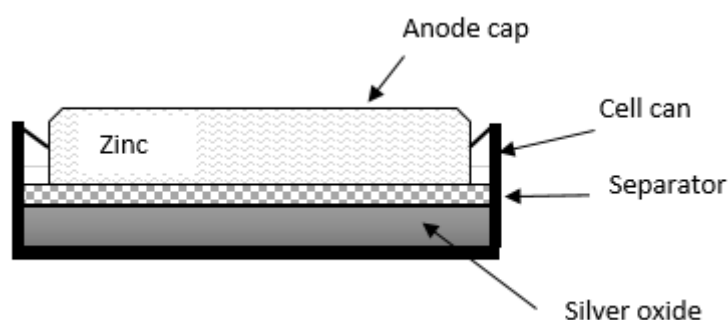

Figure 3. A schematic representation of a zinc-silver oxide cell.
Zinc-silver oxide cells are frequently used to power small electronics and photographic equipment. The cell configuration below (Figure 3) includes: an amalgamated zinc anode; silver oxide as the cathode material; and a potassium hydroxide electrolyte. During discharge, zinc will form zinc oxide whilst silver (I) oxide will form silver.